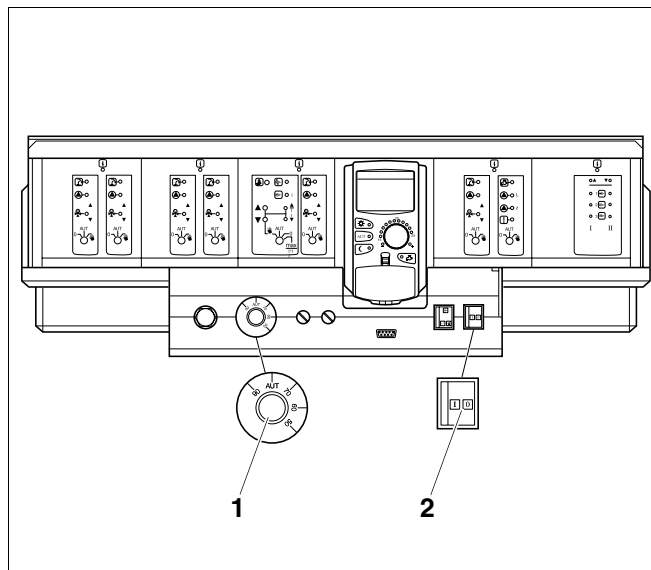

Fig. 7 Logamatic 4000 control unit
- Set the ON/OFF switch (Fig. 7, **Item 2**) to "I" (ON).
- Set the boiler water thermostat (Fig. 7, **Item 1**) to "AUT". For operation at a constant temperature, select the required temperature (min. 65 °C).
- To reset, set the ON/OFF switch (Fig. 7, **Item 2**) to "0" (OFF).
- After waiting approx. 3 minutes, set the ON/OFF switch (Fig. 7, **Item 2**) to "I" (ON). If the gas burner will not start after activating the ON/OFF switch several times (see Chapter 11 "Troubleshooting", page 55).